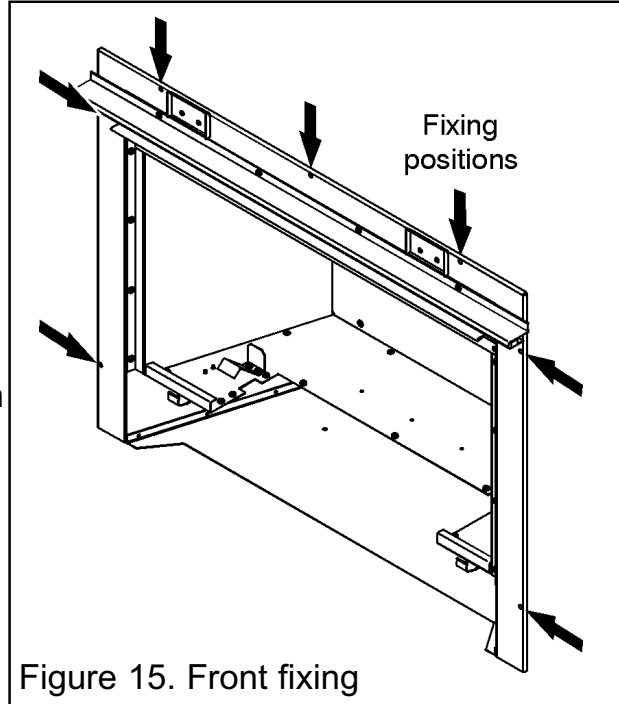

Figure 15. Front fixing
3. Mark the fireplace front surround through the seven fixing holes in the side flanges of the convection box (See figure 15).